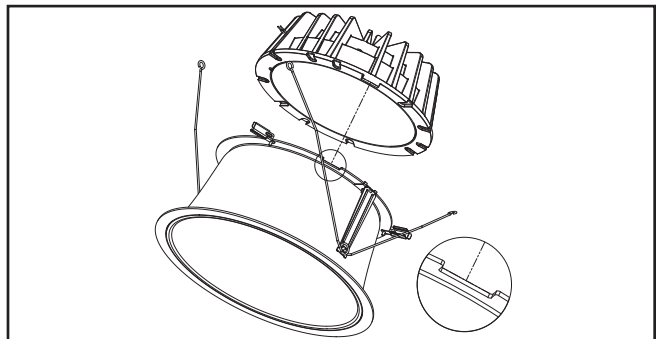

Figure 35
- Insert LED engine on to trim assembly. Align post on LED engine with slot on trim assembly (Figure 35).